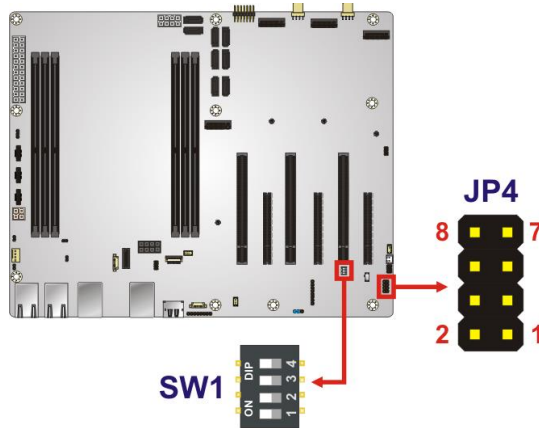

Figure 3-9: CPLD Debug Connector and Switch Location
- CN Location:** See **Figure 3-9**